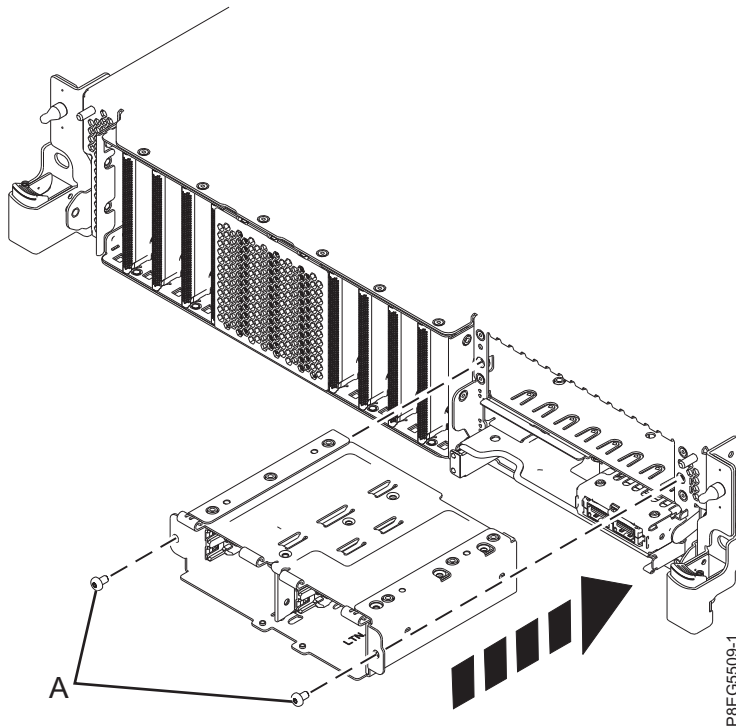

Figure 216. Reinstall SSD cage
3. Slide the SSD cage back into position. Install and tighten screws (A). See Figure 216.